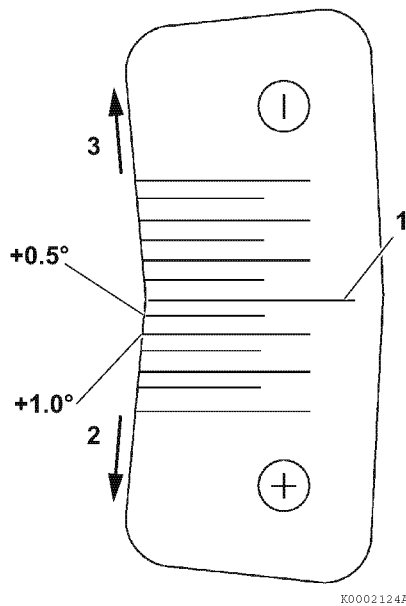

Figure 7-30
- If the difference between the timing index numbers is a positive number, the fuel injection pump mounting position must be advanced (2, Figure 7-30) (rotated away from the engine) as compared to the “standard mark” (1, Figure 7-30) by the calculated positive amount, adjust the fuel injection pump to the calculated value.
- If the difference between the timing index numbers is a negative number, the replacement injection pump must be retarded (3, Figure 7-30) (rotated toward the engine) by the calculated negative amount.
The above calculated difference indicates that the replacement fuel injection pump is to be installed at $+0.5^\circ$ (advanced) from the "Standard Mark" (1, **Figure 7-30**) on the timing sticker.